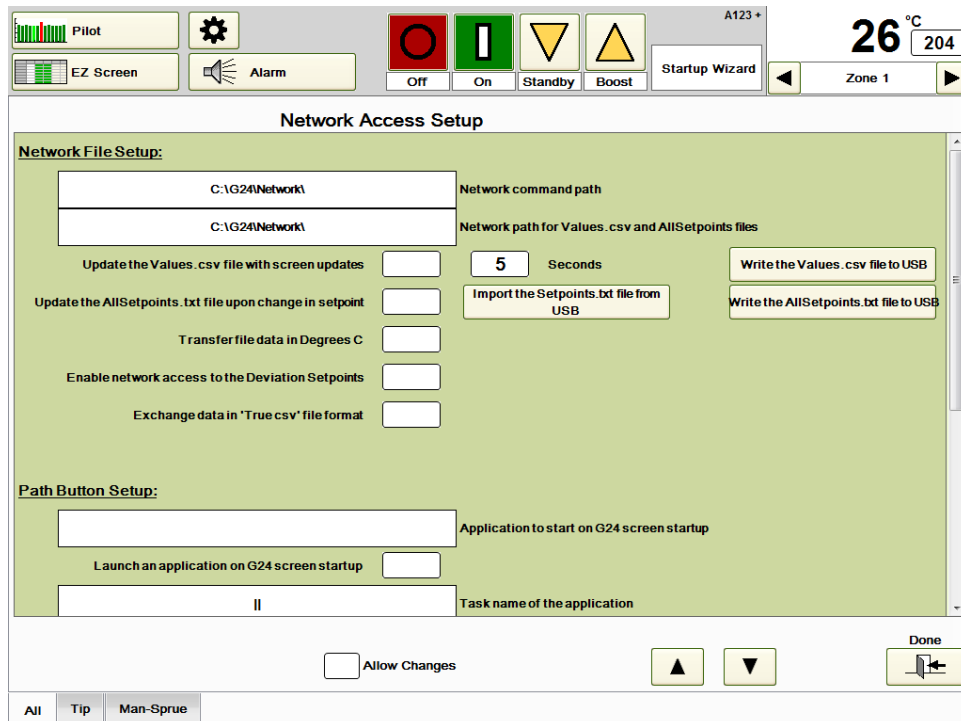

Figure 27b Network Access Setup
Setup Network Access: Press this button to access the screen shown in Figure 27b.
- Deviation Alarm (if the **Enable network access to the Deviation Setpoints** button is selected in Figure 27b)